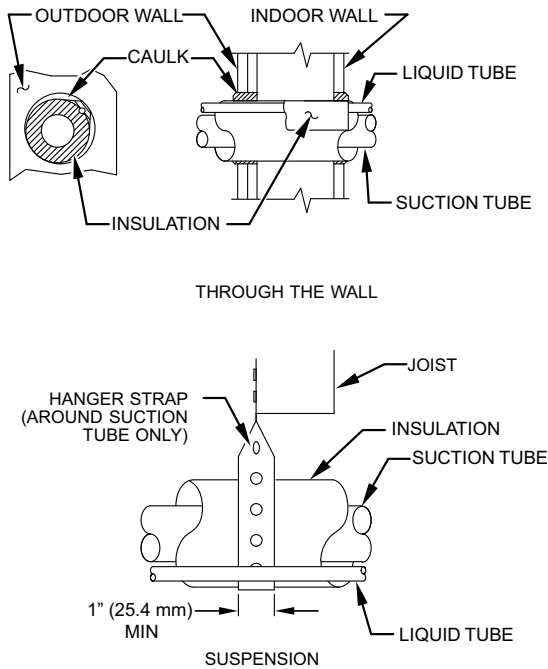

Fig. 1 – Piping Installation
6. When passing refrigerant tubes through the wall, seal opening with RTV or other pliable silicon-based caulk. (See Fig. 1.)
8. Do not suspend refrigerant tubing from joists and studs with a rigid wire or strap which comes in direct contact with tubing (see Fig. 1).
10. When necessary, use hanger straps which are 1 in. (25 mm) wide and conform to shape of tubing insulation. (See Fig. 1.)